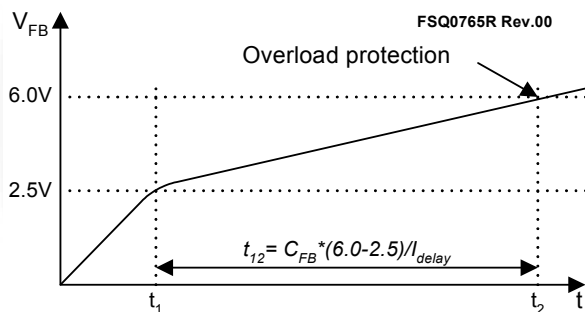

Figure 29. Overload Protection
4.1 Overload Protection (OLP): Overload is defined as the load current exceeding its normal level due to an unexpected abnormal event. In this situation, the protection circuit should trigger to protect the SMPS. However, even when the SMPS is in the normal operation, the overload protection circuit can be triggered during the load transition. To avoid this undesired operation, the overload protection circuit is designed to trigger only after a specified time to determine whether it is a transient situation or a true overload situation. Because of the pulse-by-pulse current limit capability, the maximum peak current through the SenseFET is limited, and therefore the maximum input power is restricted with a given input voltage. If the output consumes more than this maximum power, the output voltage (V_O) decreases below the set voltage. This reduces the current through the opto-coupler LED, which also reduces the opto-coupler transistor current, thus increasing the feedback voltage (V_{FB}). If V_{FB} exceeds 2.5V, D1 is blocked and the 5 μ A current source starts to charge C_{FB} slowly up to V_{CC} . In this condition, V_{FB} continues increasing until it reaches 6V, when the switching operation is terminated, as shown in Figure 29. The delay time for shutdown is the time required to charge C_{FB} from 2.5V to 6V with 5 μ A. A 20 ~ 50ms delay time is typical for most applications.